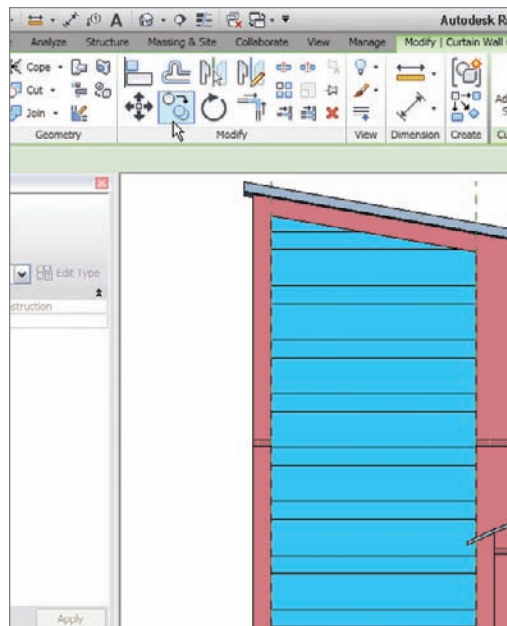

FIGURE 16.32 Copying the grids to form the custom curtain wall
9. Repeat this pattern until you have reached the top of the wall (see Figure 16.32).